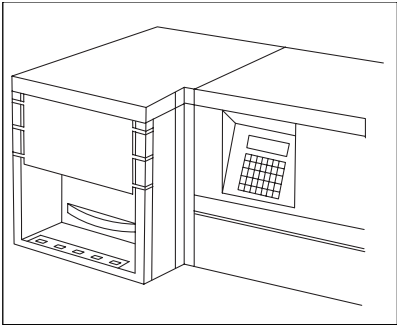

Figure 9.17
- 2. Flex front bulb window out of position (Figure 9.17).